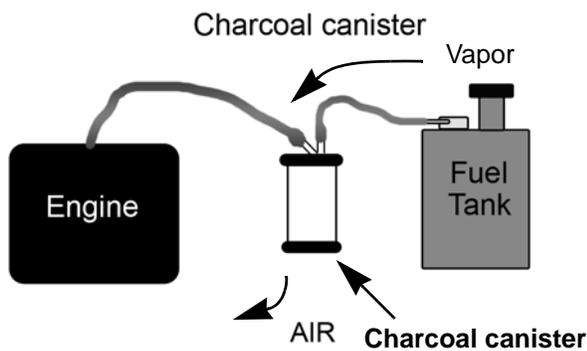

Figure 4.20
- The vapors are routed through the charcoal canister. See Figure 4.20.